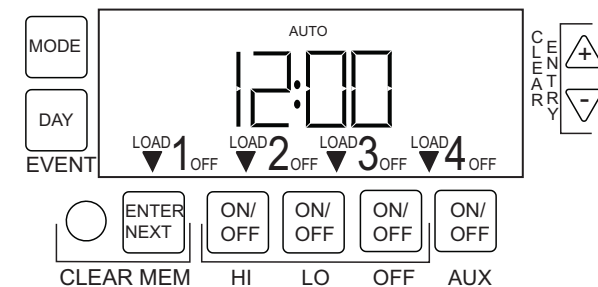

Figure 8 AUTO mode screen
Your pump does not have high speed operation or an auxiliary circuit.	Press MODE to scroll to AUTO mode (see Figure 8). The Initial Setup is complete.
- Press + or - to set the time when the auxiliary circuit will turn OFF and press **MODE**. The screen displays **AUTO** (Auto Mode) as shown in Figure 8. The initial setup is complete.